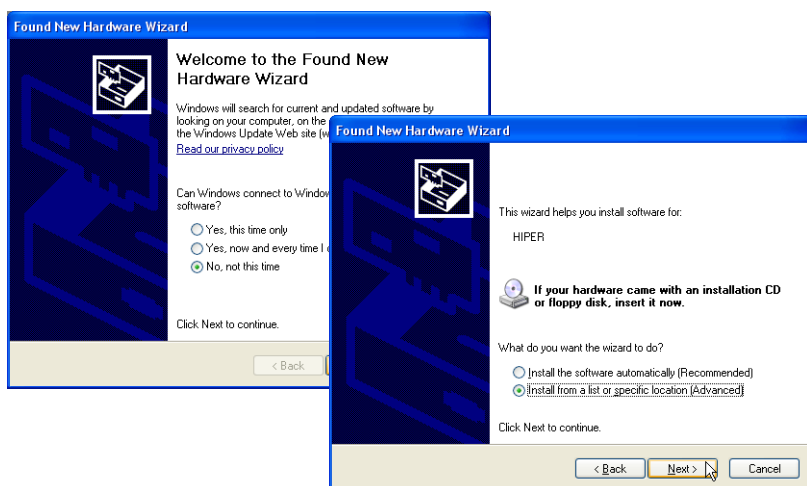

Figure C-14. Windows XP – Found New Hardware Wizard and Select Installation Method
- Select *Install from a list or specific location (Advanced)* and click **Next** (Figure C-14 on page C-9).